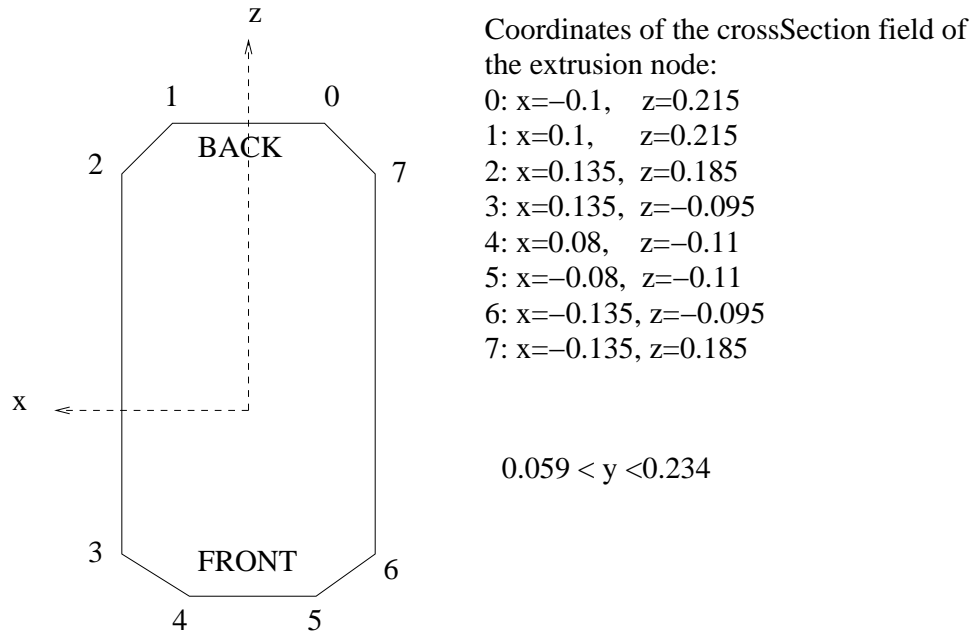

Figure 4.18: Body of the Pioneer 2™ robot
1. for the body: a `Shape` node with a geometry `Extrusion`. See figure 4.18 for the coordinates of the `Extrusion`.